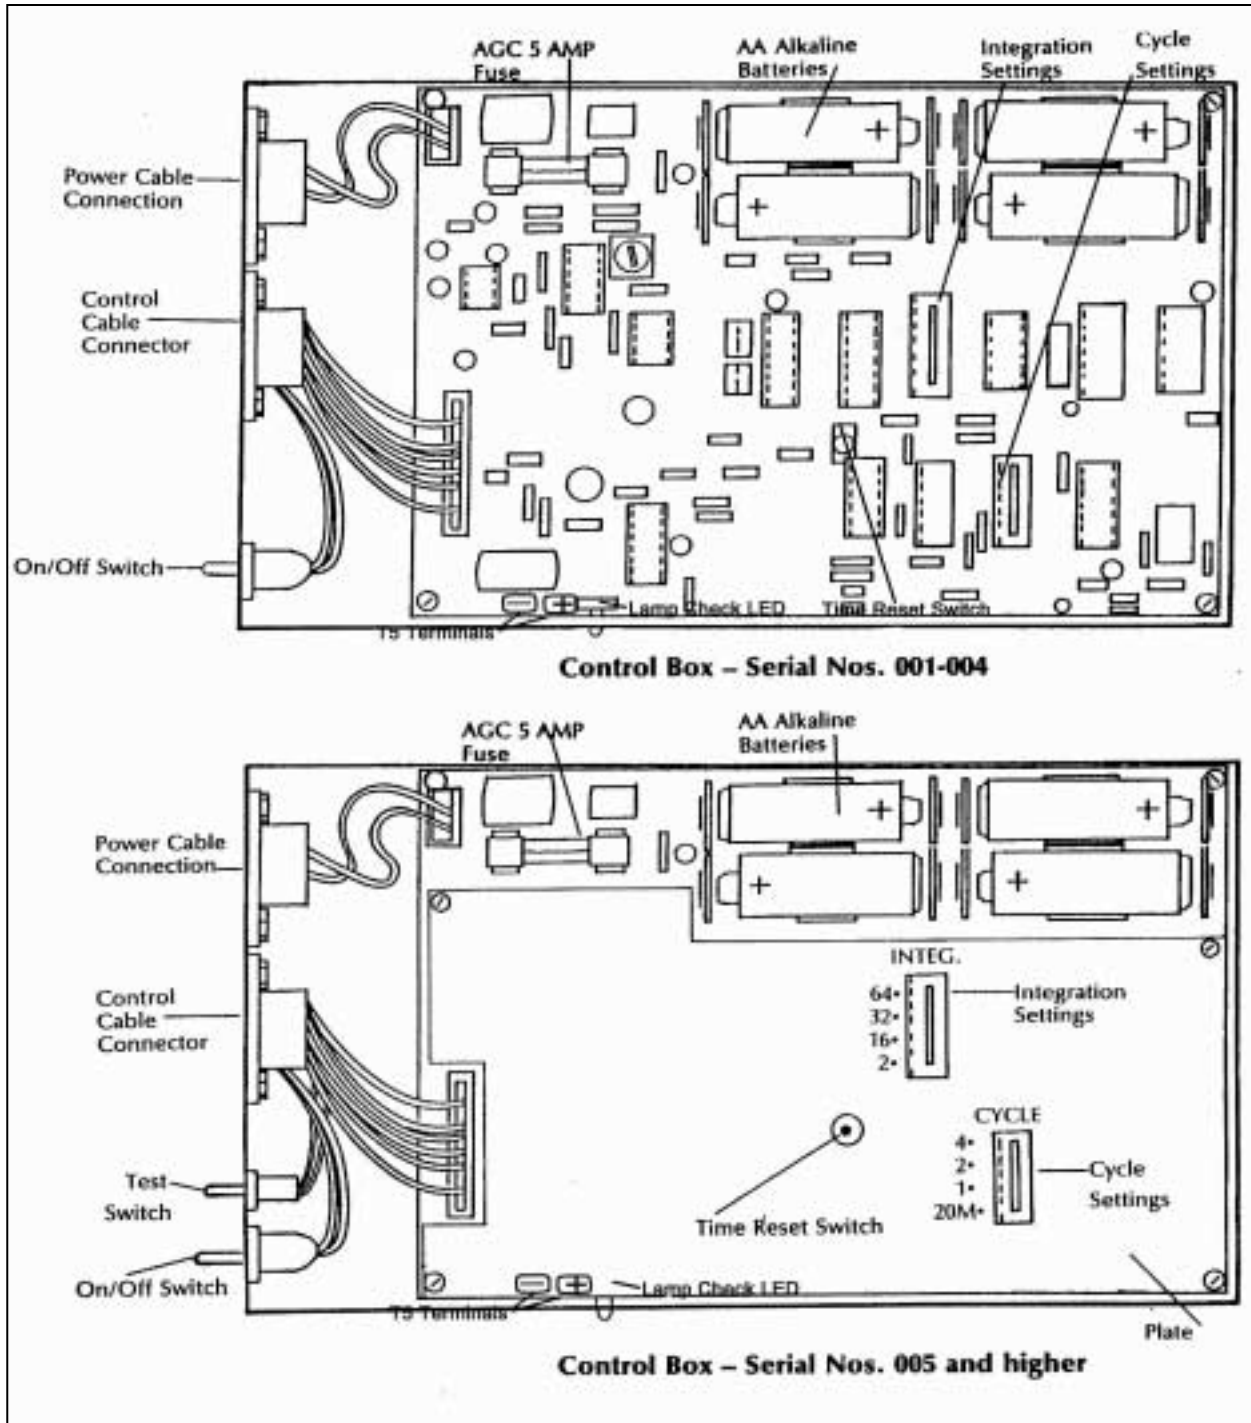

Figure 4-2. Transmitter Control Box for Location of Fuse.
- Refer to Figure 4-2, Transmitter Control Box for Location of Fuse.